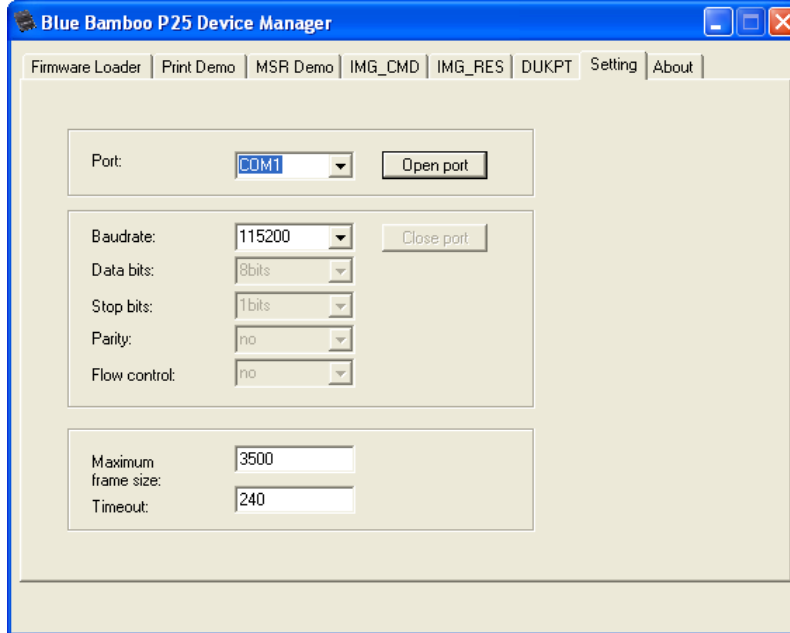

Figure 12
- Click **Setting** tab, the setting page appears as shown in Figure 12.